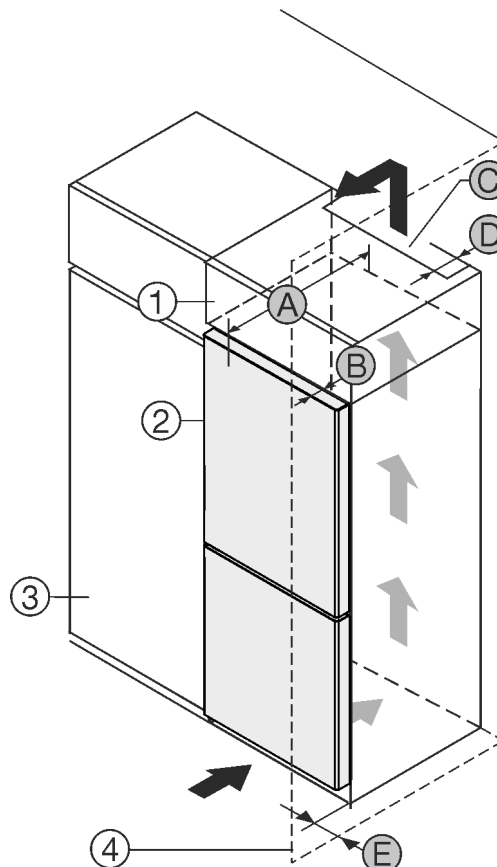

Fig. 1
You can place the appliance directly beside the kitchen cabinet *Fig. 1 (3)*.
There must be a ventilation shaft at the depth *Fig. 1 (D)* of the back of the top cupboard over the entire width of the top cupboard.
The cross section of the ventilation gap *Fig. 1 (C)* must be maintained below the ceiling.
If the appliance is set up with the hinges next to a wall *Fig. 1 (4)*, the distance between the appliance and the wall must be at least 13 mm (1/2 in).
In order to be able to fully open the door, the appliance must protrude by the depth of the door *Fig. 1 (B)* from the front of the kitchen cabinet. Regardless of the depth of the kitchen cabinets *Fig. 1 (3)* and use of wall spaces, the appliance can protrude further.